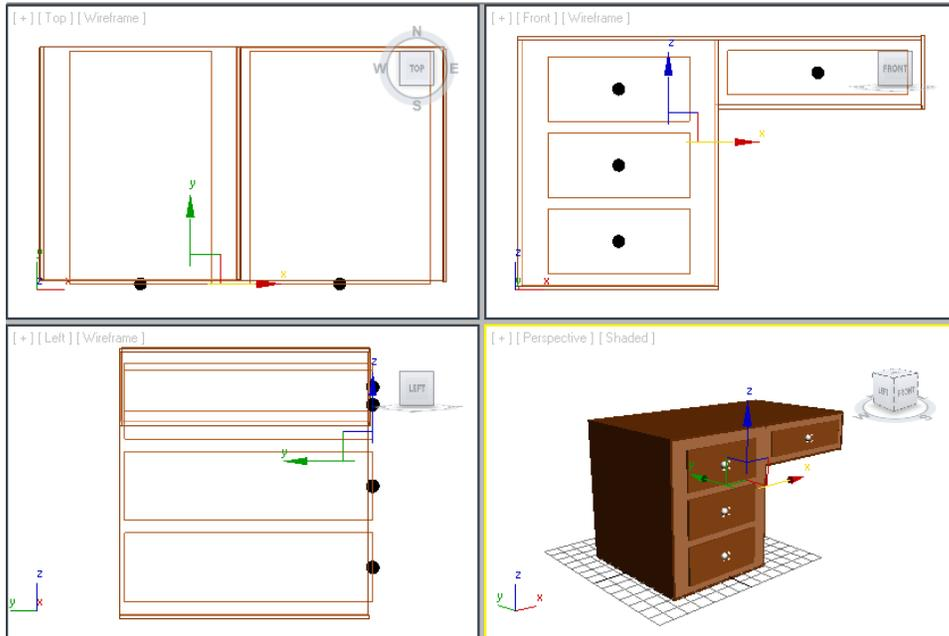

Figure 2-54 Alignment of knobs in viewports
5. Activate the Front viewport and then create three copies of *knob001* by using the **Clone Options** dialog box as described earlier. The newly created copies are automatically named as *knob002*, *knob003*, and *knob004*. Next, align them in viewports, as shown in Figure 2-54.